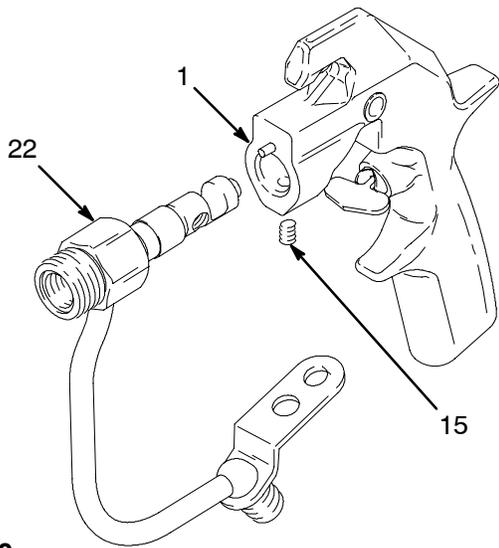

Fig. 10 04736
- Loosen the setscrew (15). Pull the fluid housing (22) away from the gun body (1). See Fig. 10.